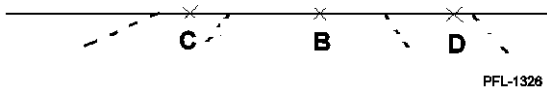

Figure 6
6. Locate three (3) marks: C, B, and D. See **Figure 6**.